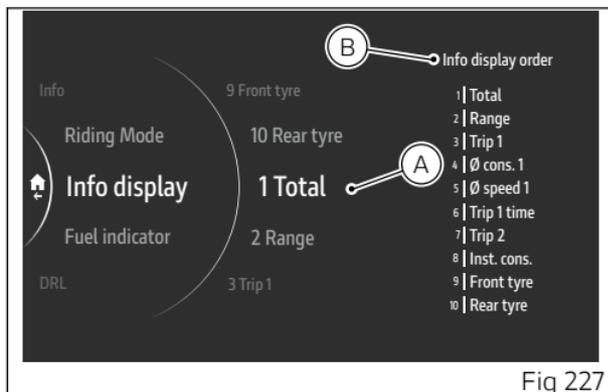

Fig 227
The list of the 10 selectable items, with the number of their current position (A, Fig 227) is displayed in the middle. The current order of the Info display (B, Fig 227) is displayed on the right-hand side.
- Use the joystick ▲ ▼ to select “Total” and press ENTER (Fig 227).
To restore the original order, select the "Default" item and press ENTER: "Wait..." is displayed for a few seconds followed by "Restored". Then, "Default" item disappears from the menu list, while the positions of the items and the current order of the Info display are restored to their original conditions (Fig 227).